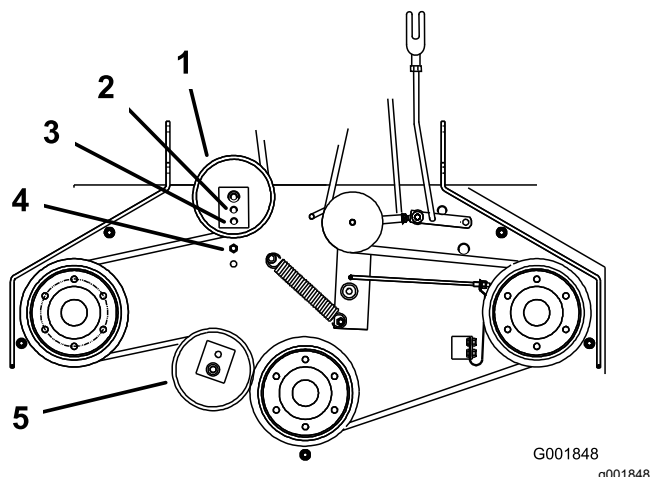

Figure 9
6. If there is no adjustment left in the turnbuckle and the belt is still loose, position the rear idler pulley in the middle or front hole (Figure 9). Use the hole that gives the correct adjustment.
7. When the idler pulley is moved, the belt guide must be moved. Move the belt guide to the front position (Figure 9).